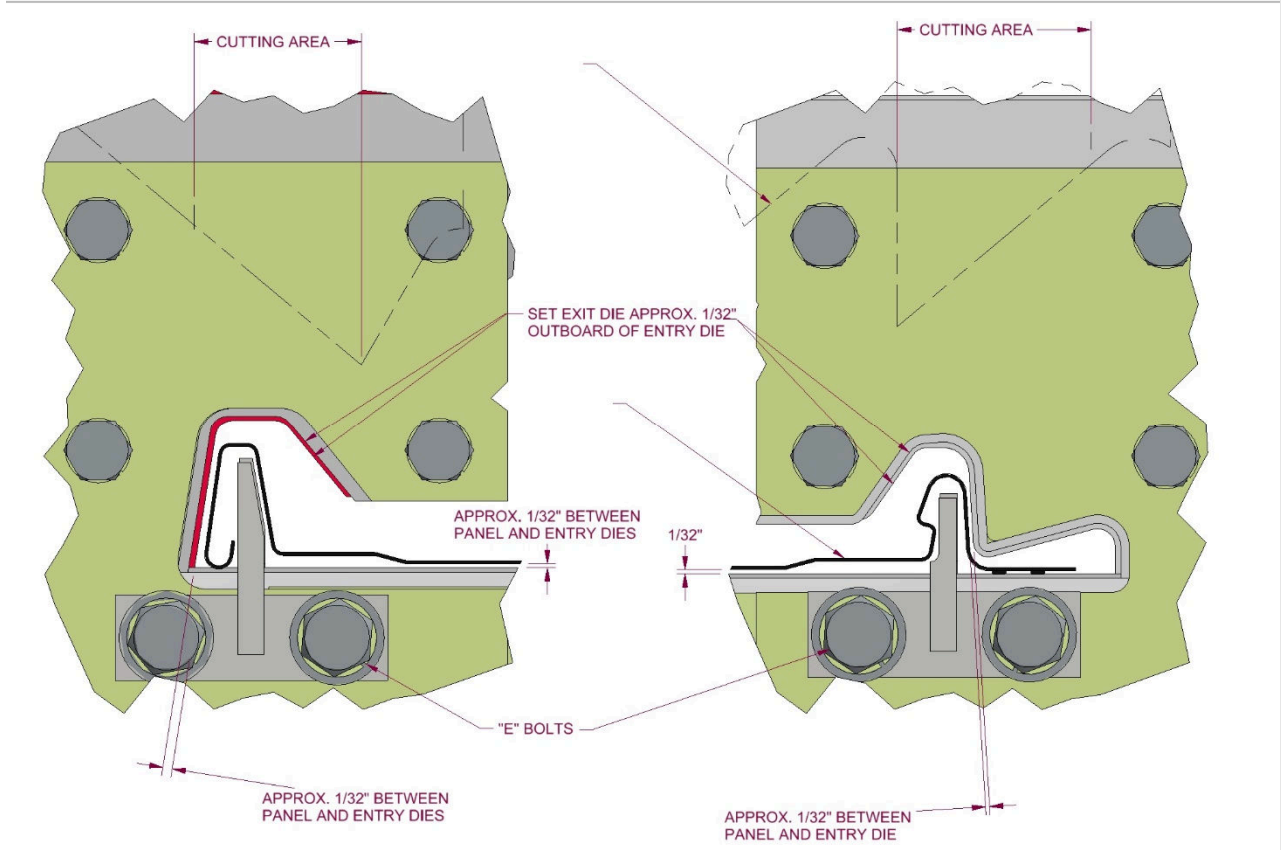
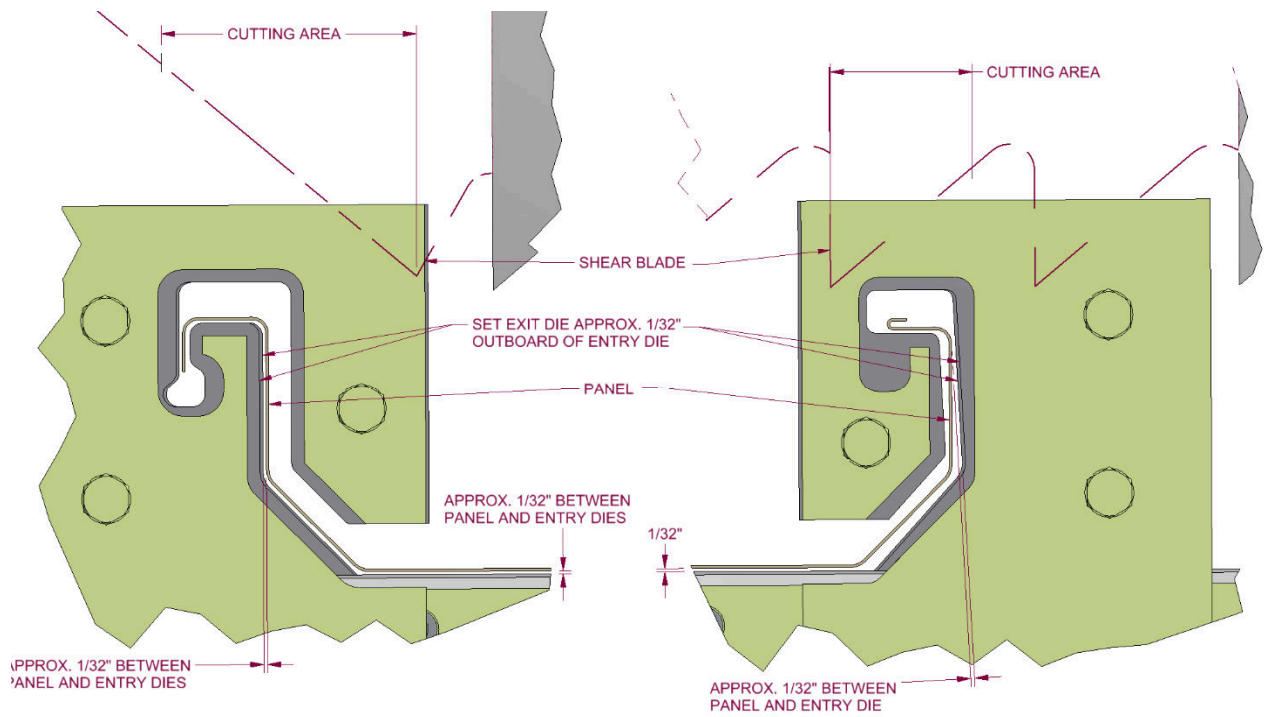

Figure 32: FF100 Shear Dies
Figure 41: TRQ250 Shear Dies
Bottom Shear Dies (**Figure 32** through **Figure 41**)
(**Figure 32** through **Figure 41**)
9. In order to cut properly, the **Top Blades** need to be positioned so that one of the #2 Blade tips is just to the inside of the male leg, as shown in Figure 32-Figure 41 and also the tip of the #1 blade is positioned to the inside of the female leg as shown in Figure 32-Figure 41. The rake or angle of the blades should cut in a scissor action outward against the legs. If necessary, loosen the 7 "D" bolts and move the Top Blades left or right to get them in the correct position. Retighten the bolts.